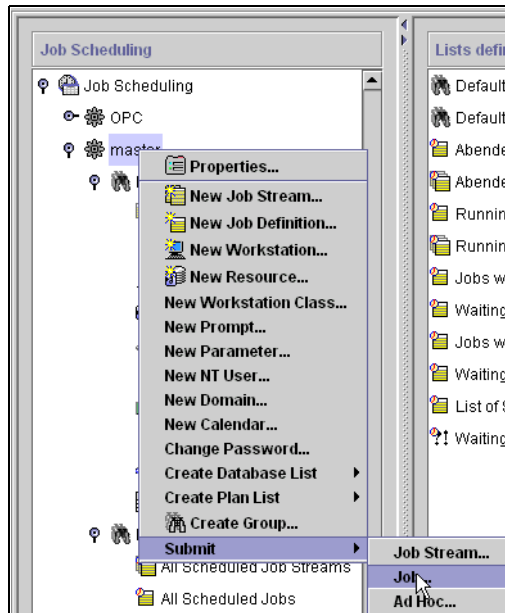
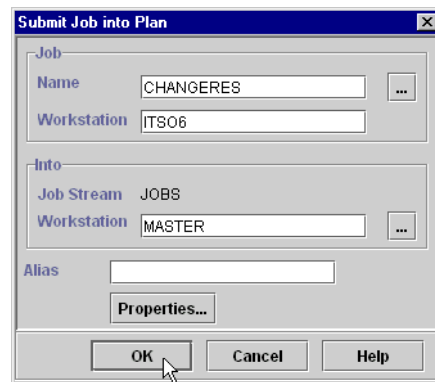

Figure 153. Submit job
Figure 154. Enter Job name
11. Submit the job from TWS. See Figure 153 on page 235 and Figure 154 on page 235.